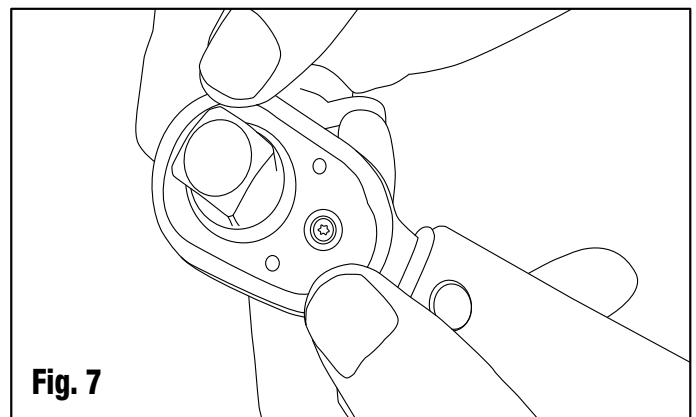

Fig. 7
Step 7: Place the lid on the driver with the chamfer side of the lid facing out. See Fig. 7